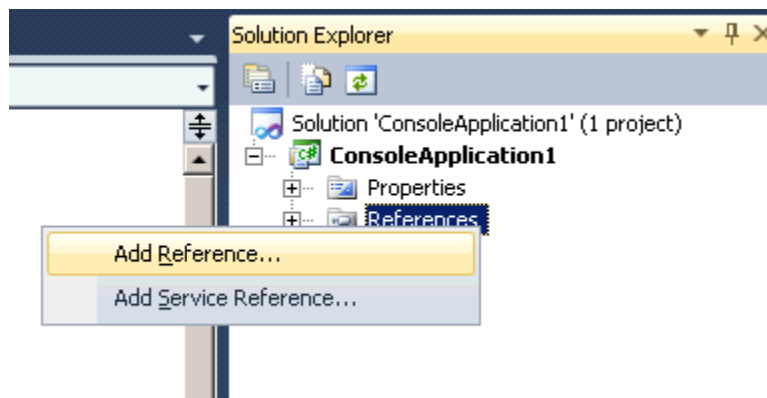

Figure 4 Visual Studio Adding References for OctandSdk
3. Name the New Project something easy to remember. By default the project will be created in My Documents/Visual Studio 2010/Projects. See Figure 4. The project will be created in its own folder.